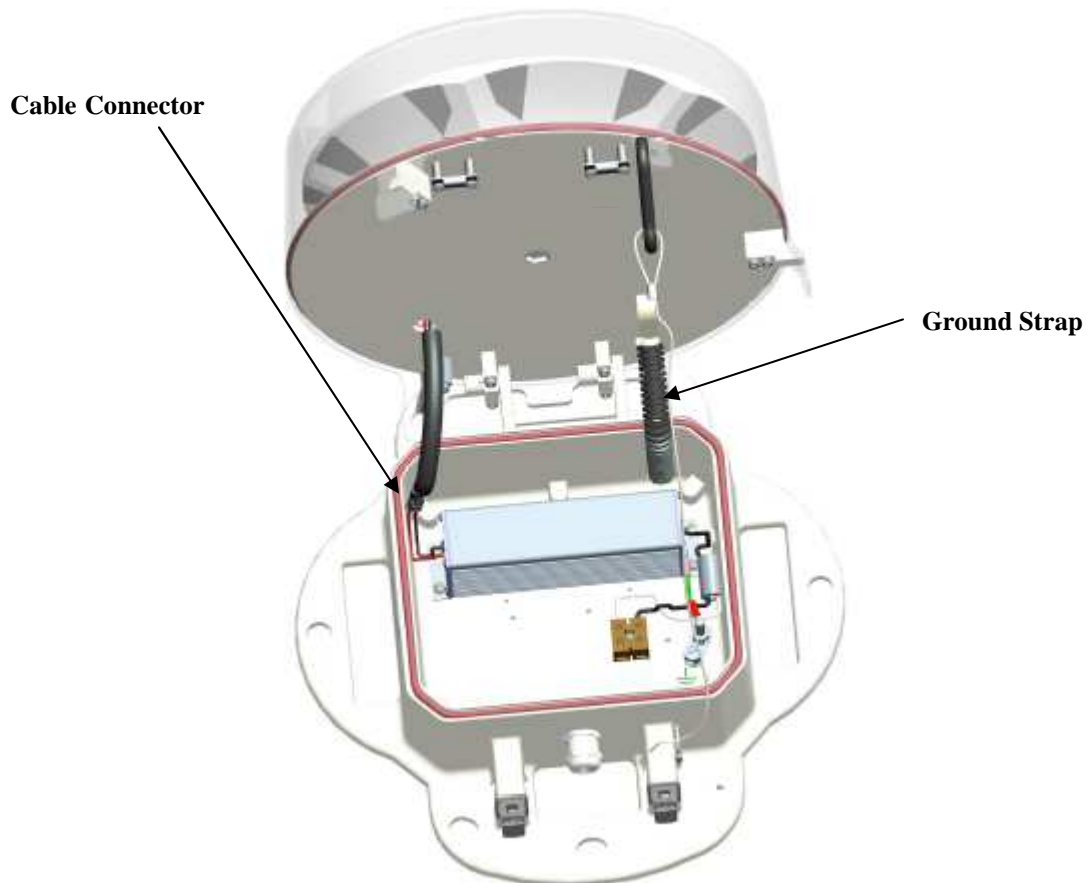

Figure 5 – Beacon in Open Position
- Figure 5: Beacon in Open Position